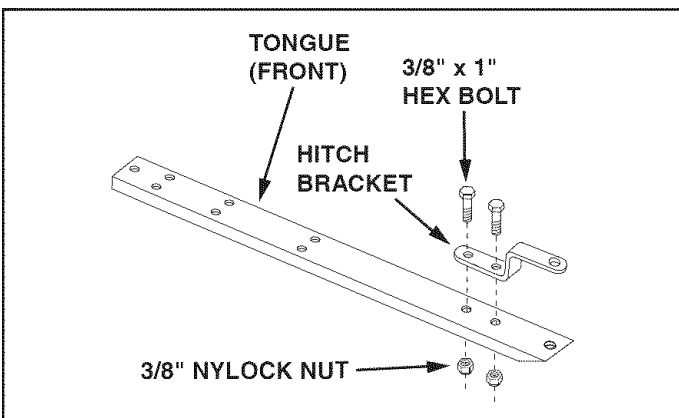

FIGURE 6
- Attach the hitch bracket to the front tongue using two 3/8" x 1" bolts and 3/8" nylock nuts. See figure 6.